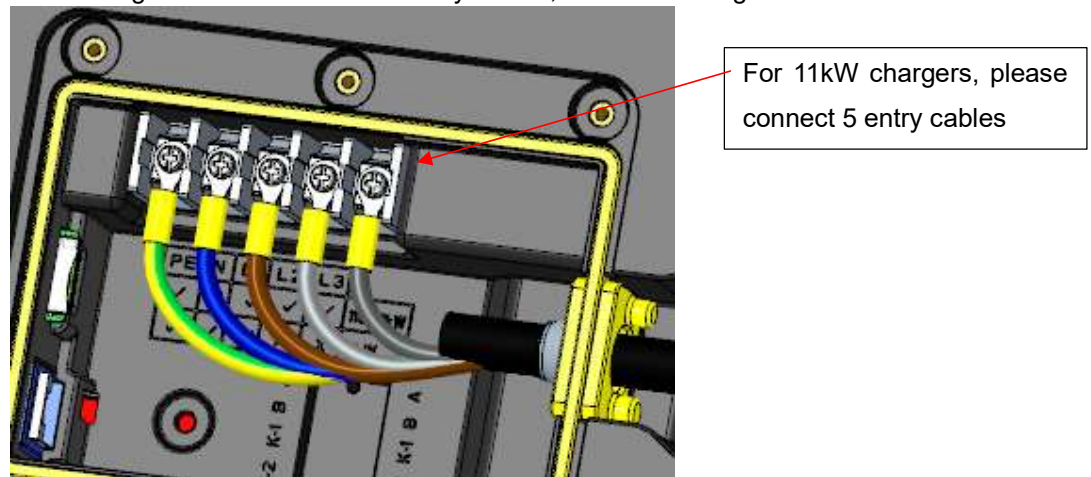

Figure A-15 11W wiring diagram
8. The 11kW charger is connected with 5 entry cables, as shown in Figure A-15.